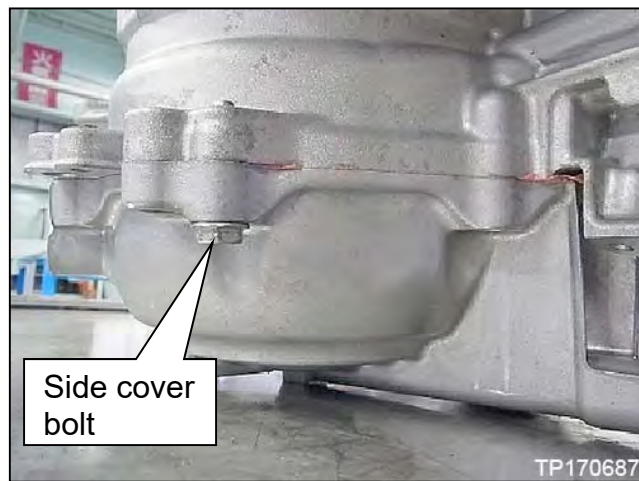

Figure 103
84. Remove the two (2) side cover bolts which were temporarily installed to hold the side cover to the CVT in step 82 on page 53.
HINT: Only one (1) bolt is shown in Figure 103 and is for reference only.